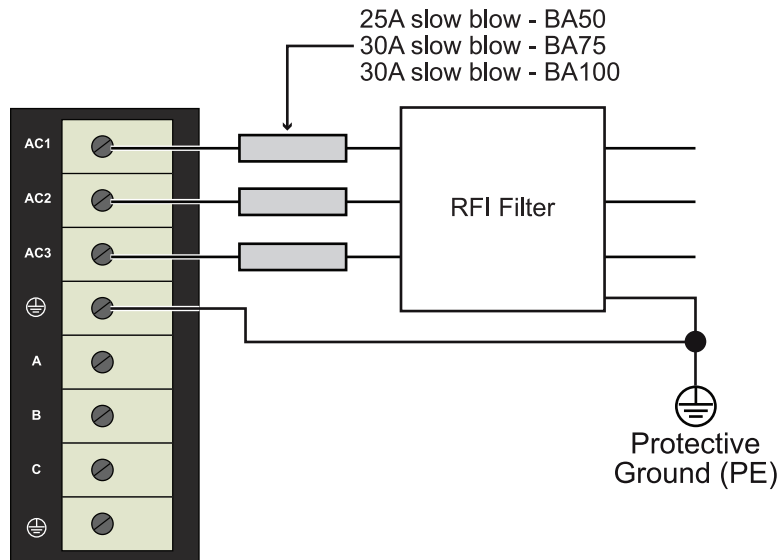

**Figure 2-2: Wiring to Minimize EMI and Capacitive Coupling**
The switching time between positive and negative rails on each of the motor leads is less than 50 nanoseconds for a 320 VDC bus. This switching rate can generate Electromagnetic Interference (EMI) into the MHz band. To minimize this EMI, it is recommended that a proper motor cable is selected and that the motor phase leads be twisted as they exit the cable. Keep the Protective Ground (PE) lead separate from the twisted motor phase leads. Refer to Figure 2-2.
1. Use shielded cable to carry the motor current and tie the shield to Protective Ground (PE). Refer to Figure 2-2.
2. Place ferrite filters around the three motor leads (two leads for brush motors). Refer to Figure 2-2. This helps reduce the harmonics generated by the 20 KHz switching waveform.
4. Providing a strong Protective Ground (PE) connection to the amplifier and motor creates a low impedance path to electrical noise that reduces radiated emissions and improves system performance.